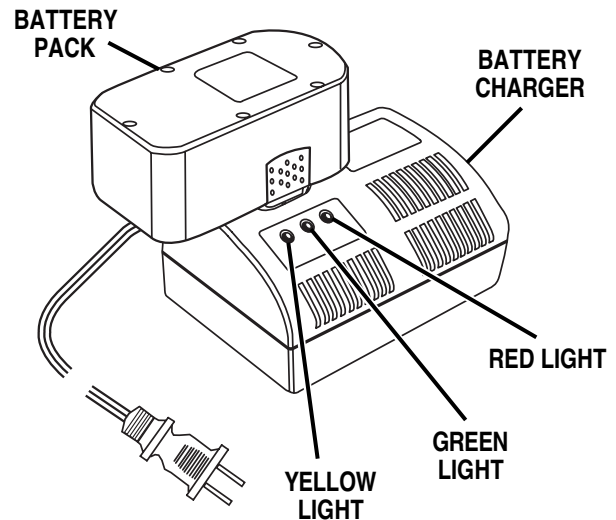

Fig. 6
See Figure 6.
- Place battery pack in charger. See Figure 6. Align raised rib on battery pack with groove in charger.